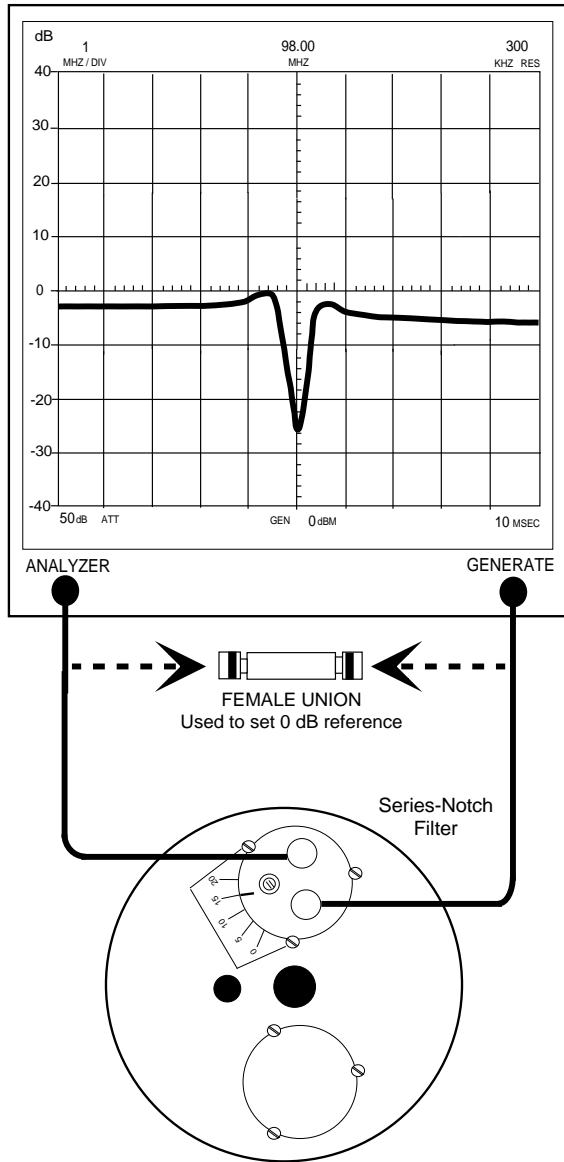

Figure 6: Checking notch depth and notch frequency.
1. A zero reference must first be established at the IFR A-7550 before the notch depth or frequency can be measured. This is accomplished by temporarily placing a "female union" between the generator output and analyzer input, refer to figure 6.
6. Connect the generator output and analyzer input to the input/output ports of the loop plate assembly. The notch depth and notch frequency can be read from the display on the IFR A-7550's screen, see figure 6.
center-vertical graticule line on the IFR A-7550's display). See figure 6.